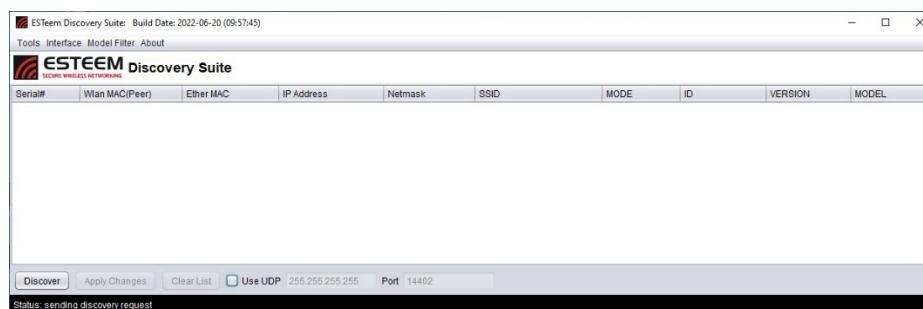

Figure 1: ESTeem Discovery Utility
2. Once both the above programs have been installed, save the estDiscoverySuite.exe file to any location on your computer such as the Desktop. Double click the ESTeem.exe program and Figure 1 will be displayed.